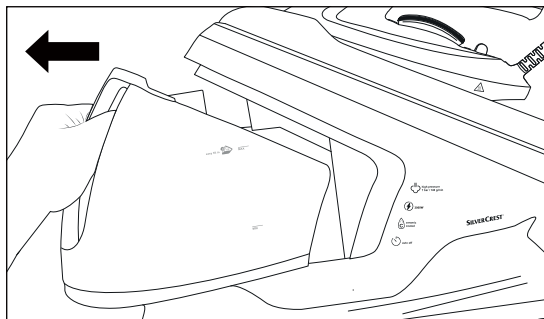

Fig. 3
- 2) Pull the water tank ⑩ by the handle out of the base station (see fig. 3).